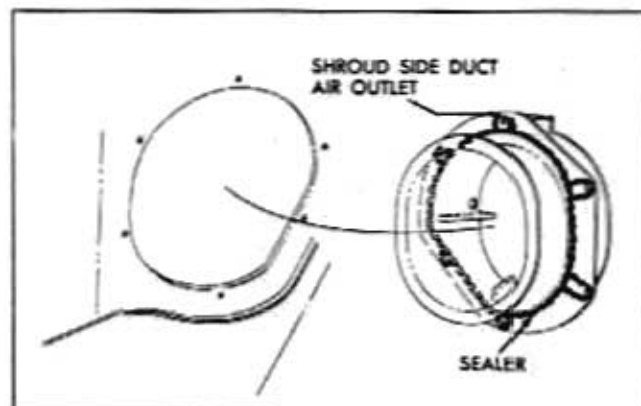

Fig. 1-15 Shroud Side Duct Air Outlet
3. To install, apply a bead of medium-bodied sealer to shroud panel at areas indicated in Fig. 1-15 and reverse removal procedure.